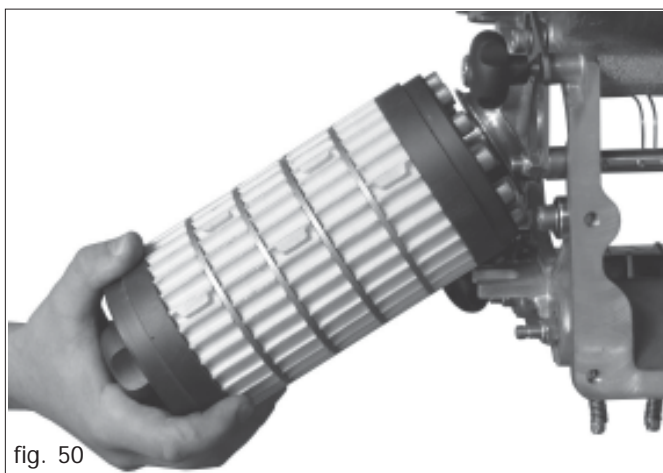

fig. 50
- 2) Extract the seeding roller (Fig. 50) as shown and described in paragraph 2.1.3.